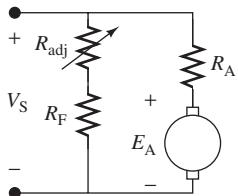

FIGURE P13.22 Circuit for Problem 13.22.
- 13.22** (A) For a speed control motor (see circuit in Figure P13.22), given $E_A = K \phi \omega_m$, express the speed of the motor in terms of K , ϕ , I_A , I_F , R_{adj} , R_F , and R_A .